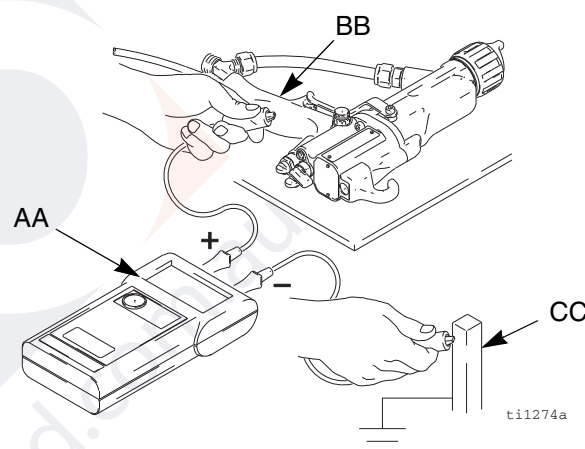

Fig. 4. Check Gun Grounding
Megohmmeter Part No. 241079 (AA-see FIG. 4.) is not approved for use in a hazardous area. To reduce the risk of sparking, do not use the megohmmeter to check electrical grounding unless:
4. Make sure the grounded air hose (R) is connected and the hose ground wire is connected to a true earth ground.
5. Measure the resistance between the gun handle (BB) and a true earth ground (CC). Use an applied voltage of 500 minimum to 1000 volts maximum. The resistance should not exceed 1 megohm. See FIG. 4.